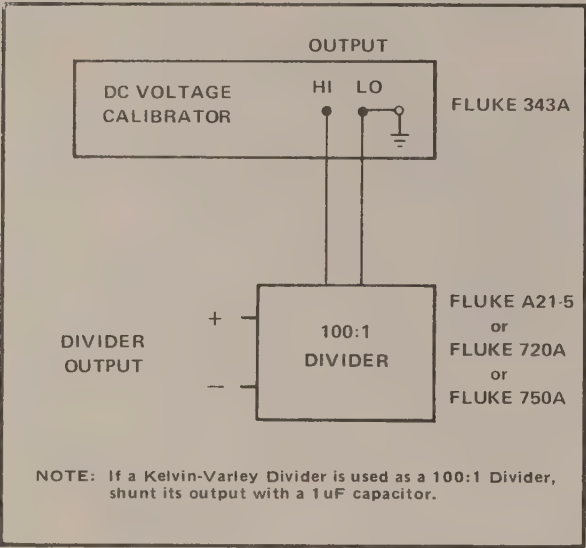

Figure 4-2. VOLTAGE DIVIDER—CALIBRATOR CONNECTION
- d. Connect a voltage divider to a dc voltage calibrator as in Figure 4-2. (See Table 4-1 for specifications.)
- a. Complete the equipment connections shown in Figure 4-2, by doing the following: